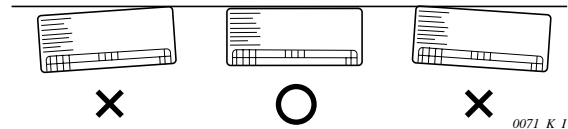

Fig. 3-52
(2) Double check with a tape measure or carpenter's level that the panel is level. This is important to install the unit properly. (Fig. 3-52)
(3) Make sure the panel is flush against the wall. Any space between the wall and unit will cause noise and vibration.